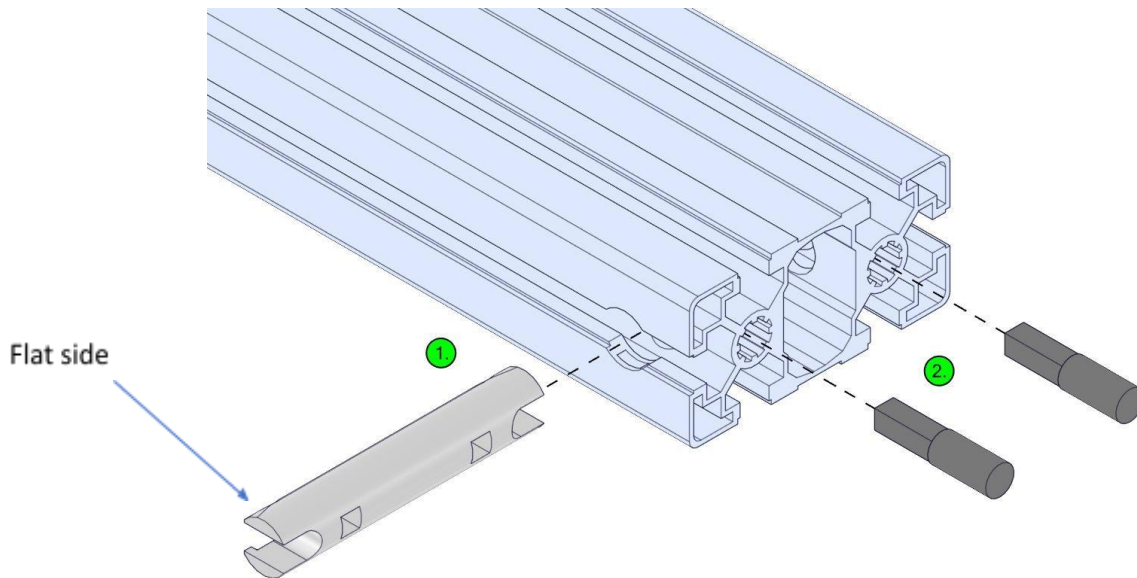

Figure 3.8
The surface frame utilises the bolt connectors to provide clean perpendicular fastening. To assemble the bolt connectors, first insert the bolt connector shaft (1) into the cut hole making sure that the flat side of the shaft faces away from the profile face. Then insert the pegs (2) into the profile holes as shown in Figure 3.8 to keep the shaft in place.